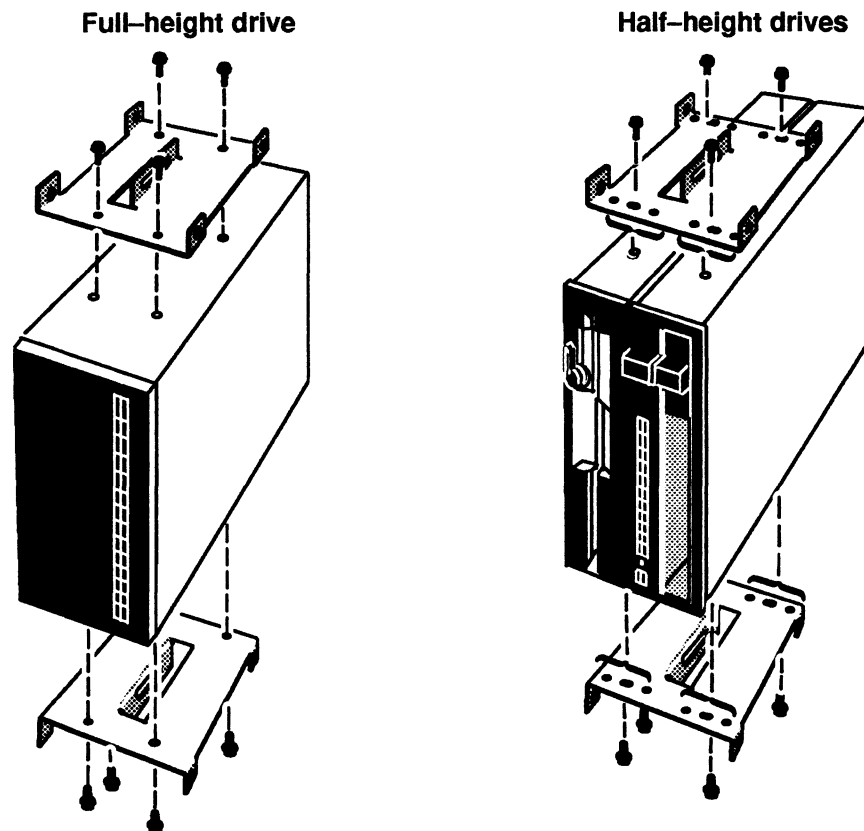

Figure 2-8 Removing Brackets from Drives
1. Remove the eight screws and washers (four for each bracket) that secure the drive unit to the brackets. If you are only removing one half-height drive from the brackets, you only need to remove four screws and washers (two for each bracket). Figure 2-8 shows how to remove the brackets from full-height and half-height drives.